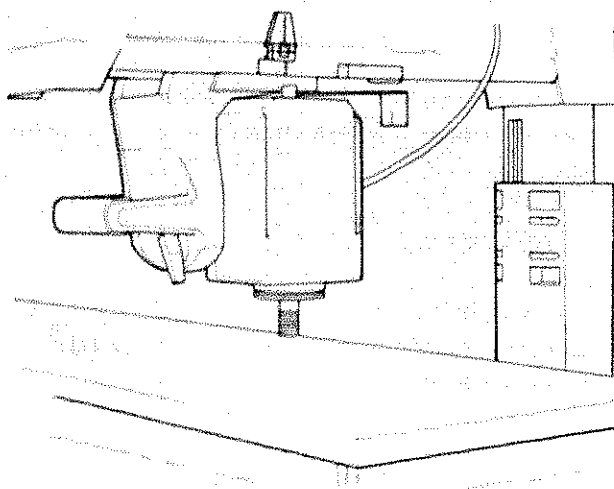

Fig. 53
3. Unlock the *bevel lock*, and turn the *motor* so that the *arbor* is perpendicular to the *table*. (Figure 53)